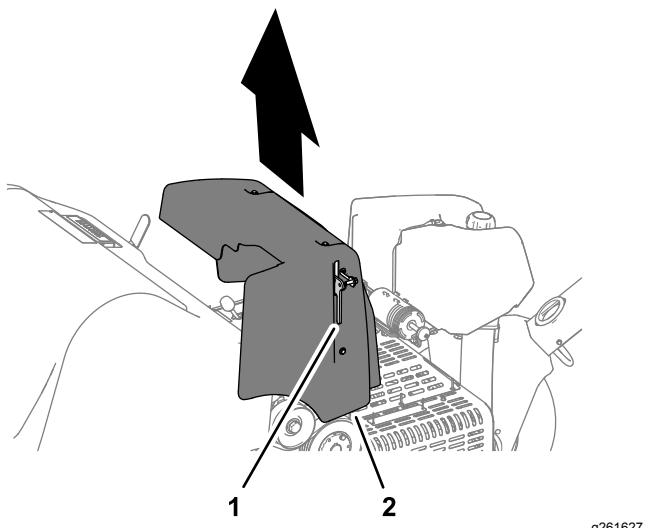

Figure 33
1. Lift the latch lever for the hood and lift the hood from the machine (Figure 33).